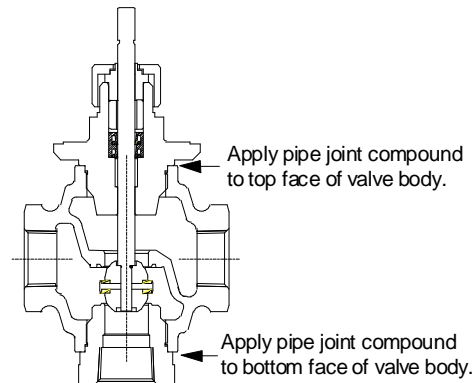

Figure 2: Mixing Valve
Normally Closed (Push-Down-To-Open) and Mixing Valves (See Figure 2.)
Note: Although the illustration in Figure 2 represents a mixing valve, the normally closed and mixing valves follow similar procedures.
- Check to make sure that the top and bottom faces of the valve and the mating face of the bonnet and bottom cap/lower body are clean. **Springly** apply pipe joint compound to the top and bottom faces of the valve body as illustrated in Figure 2.